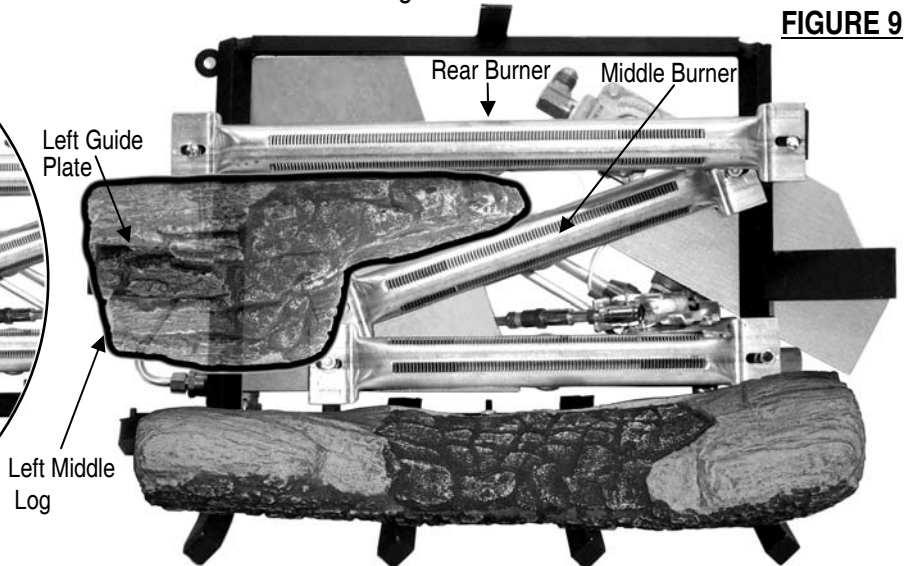

FIGURE 9
2. **LEFT MIDDLE LOG:** Align **Left Middle Log** guide groove (Figure 8A) over the **Left Guide Plate** (Figure 8B) and position log between the **Middle Burner** and **Rear Burner** as shown in Figure 9.